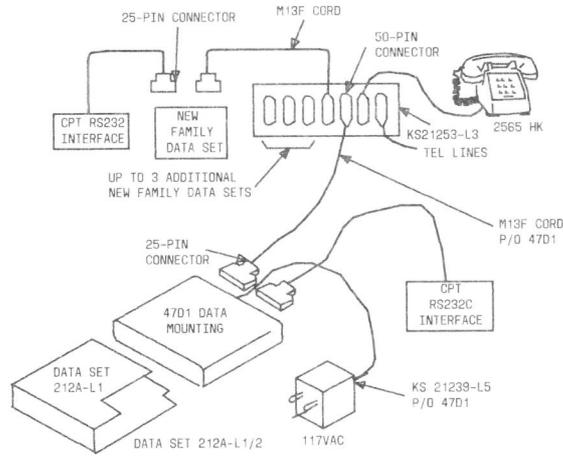
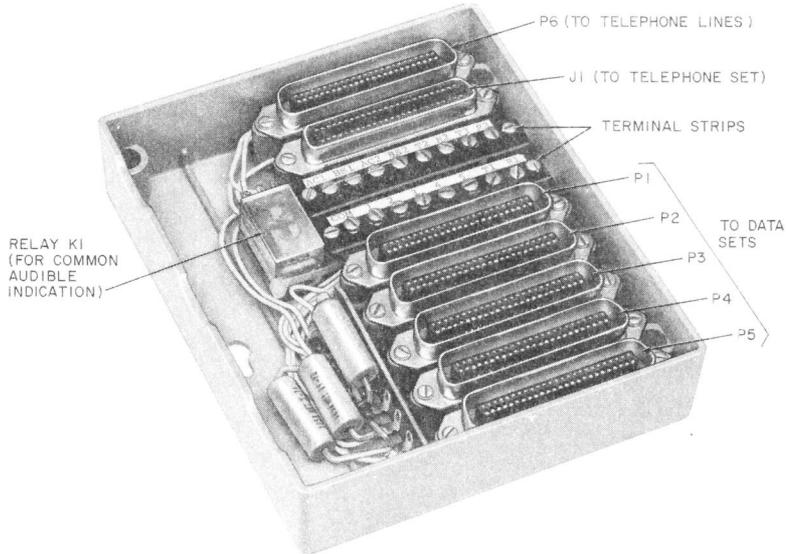
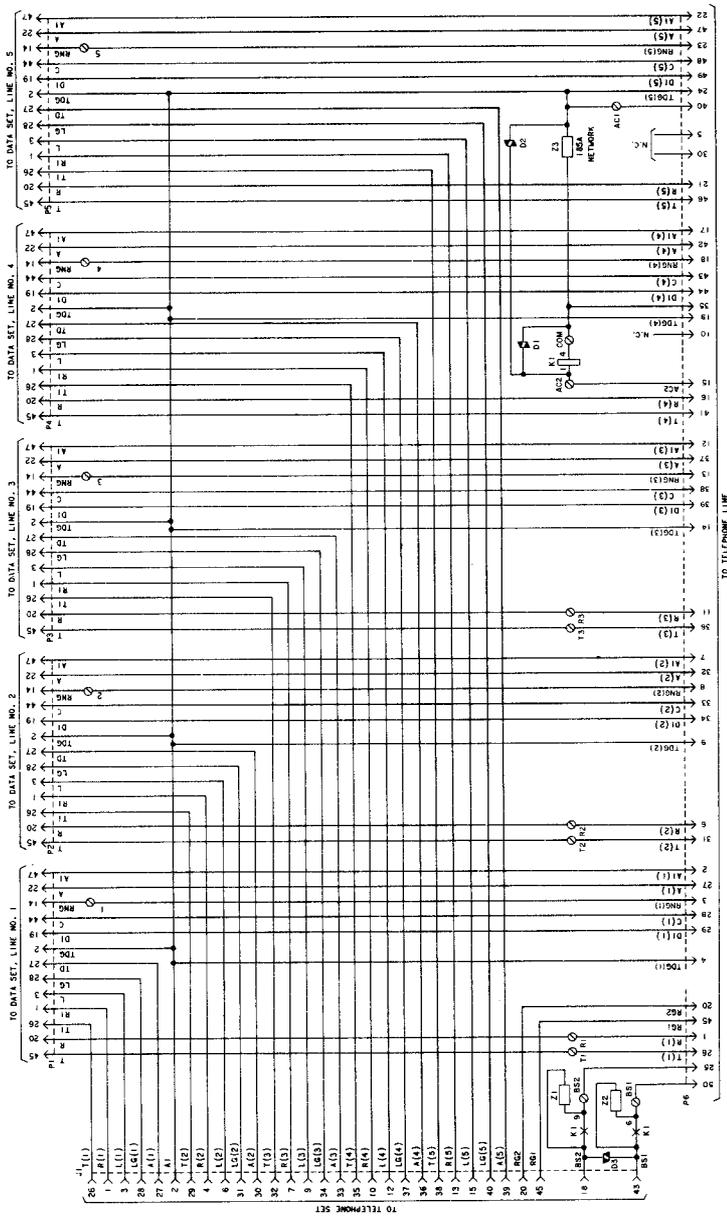

Fig. 9—Single Data Set With Shared Tel Set
Fig. 10—KS-21253-L3 Adapter With Cover Removed
Fig. 11—Internal Wiring of KS-21253-L3 Adapter
**4.06 Single Data Set With Shared Telephone Set:** If DS 212A-L1A/2A shares the telephone set with other DSs 212A or other new family data sets, the connections are made as shown in Fig. 9. To eliminate the need for several 110-Vac outlets, the individual KS-21239-L5 transformers can be plugged into a multiple power outlet strip. A 602-15 Waber Electric power outlet strip accommodates three transformers. A 1A2 power panel accommodates six transformers. A KS-14532-L20 or equivalent cord is required with the 1A2 power panel. Figure 10 shows the KS-21253-L3 adapter used with this arrangement. Figure 11 shows the internal wiring of this adapter, and may be useful in troubleshooting.